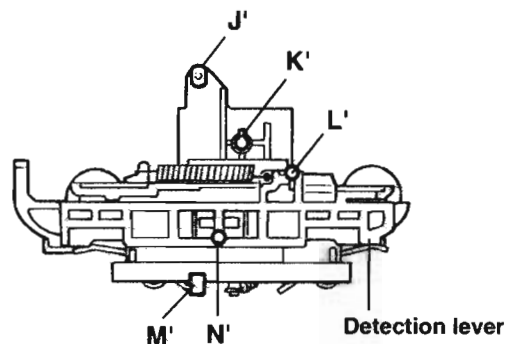
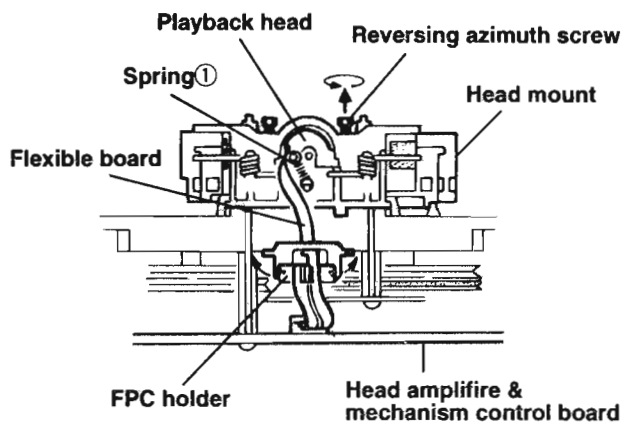
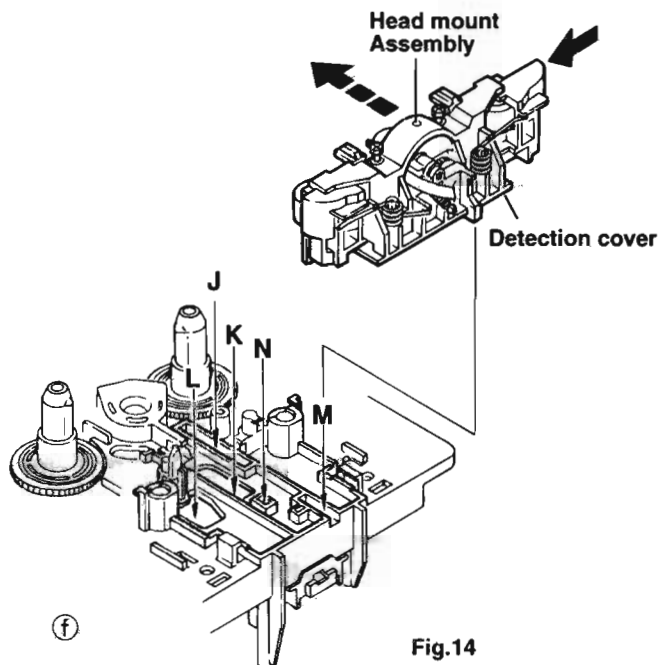
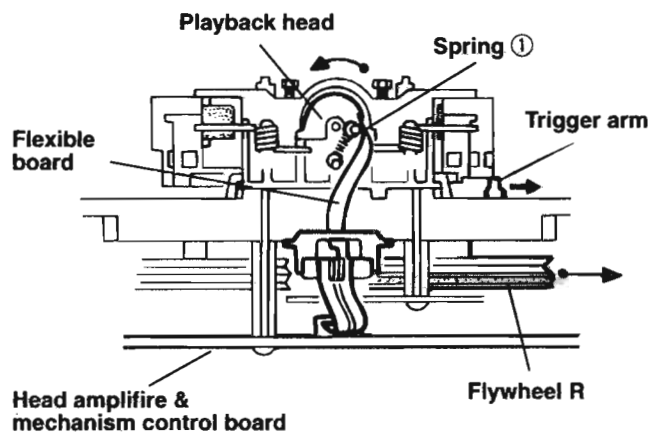

Fig.13 Head mount Assembly
Fig.15
Fig.14
Fig.12
Front speaker Fig.15
Reassembling the Playback,Recording and Eraser Heads(See Fig.13,Fig14)
- 2)Reassemble the playback head from the front of the head mount to the position as shown Fig.13, Fig14,and Fig.15.(J', K',L' and M',N' are set to the hole of K and L and ditches of J,M and N and thru sting out the head mount assembly is built in.
- 4.Attach the flexible P.C. board to the chassis base, and fix it with the FPC holder as shown in Fig.15.
2. When the flywheel R is rotated in counterclockwise direction from the position in Fig.12 to that in Fig.13.
6. Remove the spring ③ from behind the playback head.